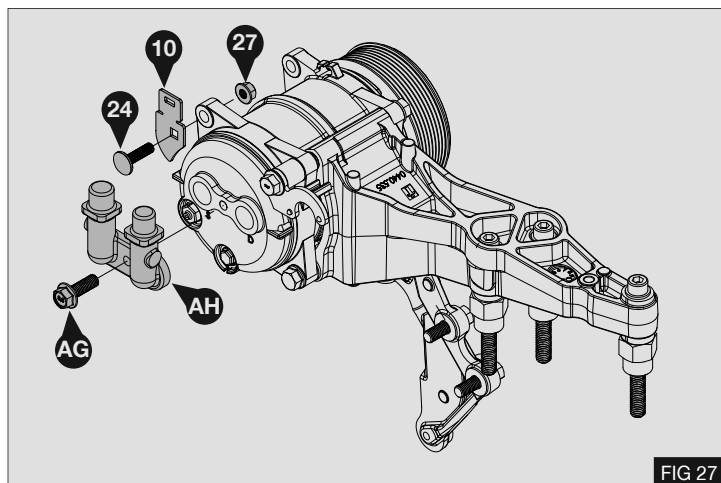

FIG 27
9. Refit the suction/discharge manifold (AH) and torque bolt (AG) to 25 Nm / 18 lb. ft. Slide the battery cable bracket (10) together with bolt (24) already installed into the cable holder and fasten it to the compressor as shown. - Fig 27
Torque bolts (19) to 58Nm / 43lb. ft. - Fig 27